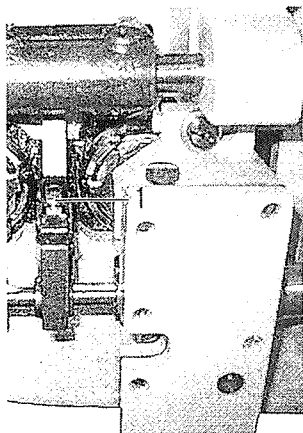

Fig.23
15. ADJUSTMENT THE HEIGHT OF THE FEED DOG (Figs. 23,24 & 25)